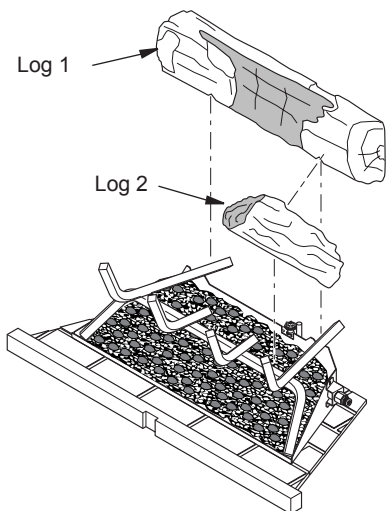

Figure 25 - Installing Log 1 and 2
1. Place large back log (log 1) onto grate making sure notches rest over grate (see Figure 25).
2. Place log 2 onto front right side of grate and back of log 2 into notch on right front of log 1 (see Figure 25).